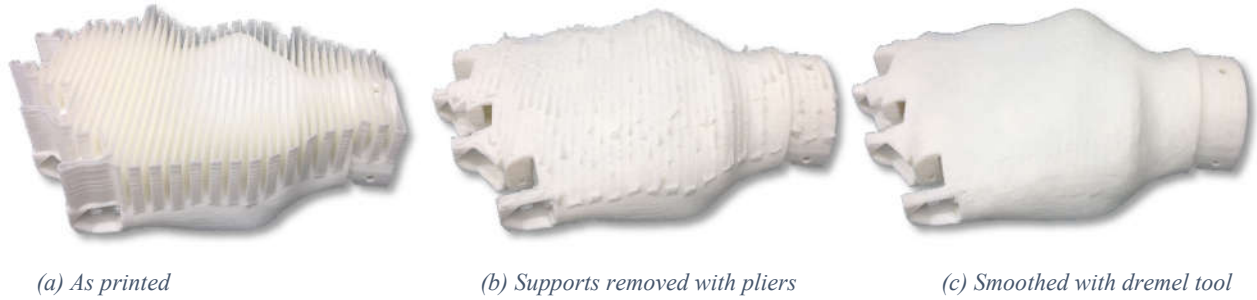

Figure 4: Dorsal Palm post processing
1. Dorsal Palm: Remove print supports using needlenose pliers, then sand smooth using dremel tool with sanding wheel. See Figure 4. The inside faces of the connections with the fingers should also be sanded using 120 grit sandpaper, to ensure a smooth running fit.